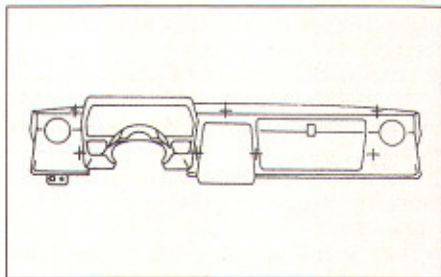

Fig. 11.7 Facia panel fastening points marked with cross (Sec 20)
- 6 The panel should now be ready for removal. Disconnect any auxiliary switches which may have been fitted and then, referring to Fig. 11.7, unscrew and remove the facia retaining bolts from the panel underside. Withdraw the panel.